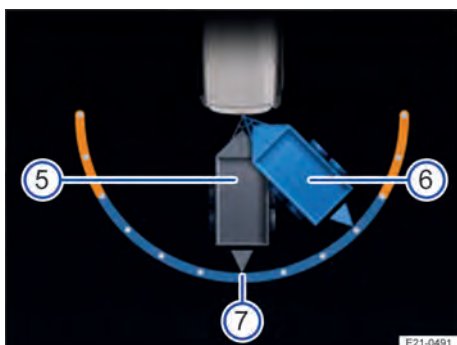

Fig. 137 On the instrument cluster display: adjusting the direction of travel of the trailer.
A diagram showing the current position of the trailer appears on the instrument cluster display for orientation purposes → Fig. 137 ⑤.
5. Use the rotary knob to correct the angle to the left ② or right ③ if necessary.